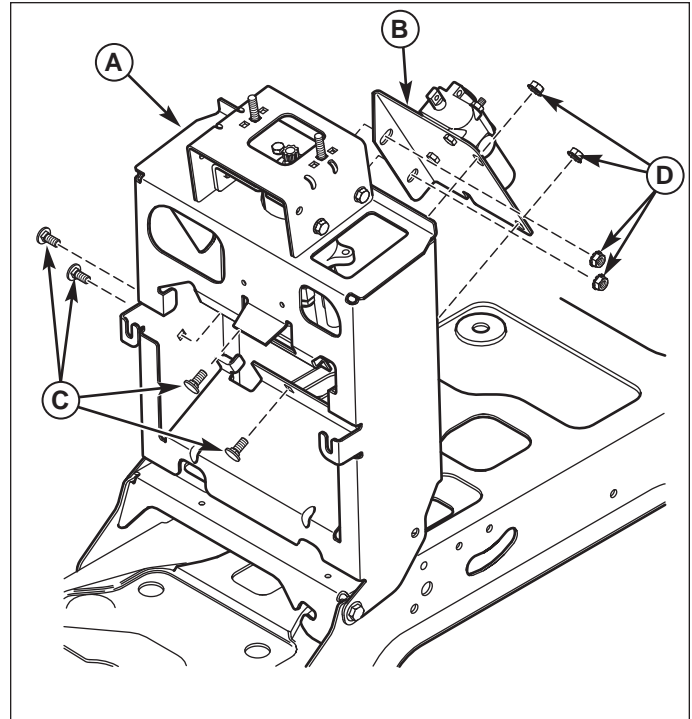

Figure 16 Control Valve Spool & Support Installation
4. Install control valve spool and support (B, Figure 16) to the new tower (A) using (previously removed) four 5/16-18 x 3/4 carriage bolts (C), and four 5/16-18 KEPS lock nuts (D).